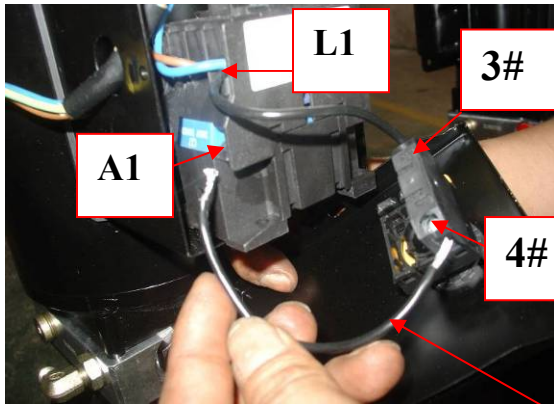

Fig. 35 Remove this line before connecting the Limit Switch
4. Connecting the Limit Switch: Remove the line of Connecting Terminal **4#** on the up button and **A1** on the AC contactor (See Fig. 35). Then connect wire **12#** on the Limit Switch with Terminal **4#** on the control button and connect wire **11#** with terminals **A1** on the AC contactor.